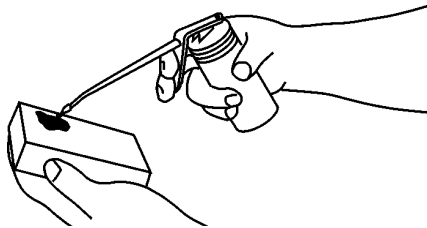

Figure 17
- Apply one tablespoon of SAE 30W oil to the pre-cleaner and air filter (Fig. 17).